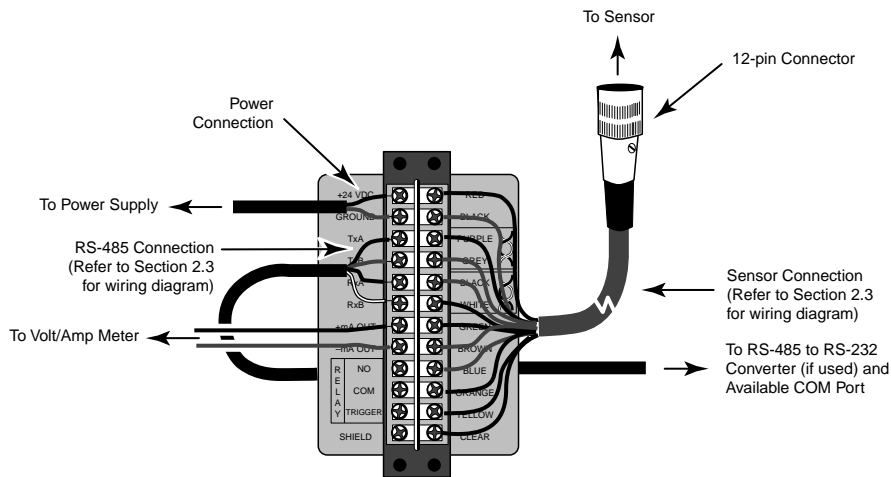

Figure D-2: Wiring Diagram
3. Attach the sensor cable assembly's 12-pin connector to the sensor, and plug the AC adapter into the RS-485 to RS-232 converter (see Figure D-2).
6. Connect the Volt/Amp meter to the appropriate analog output terminals on the terminal block assembly (see Figure D-2).